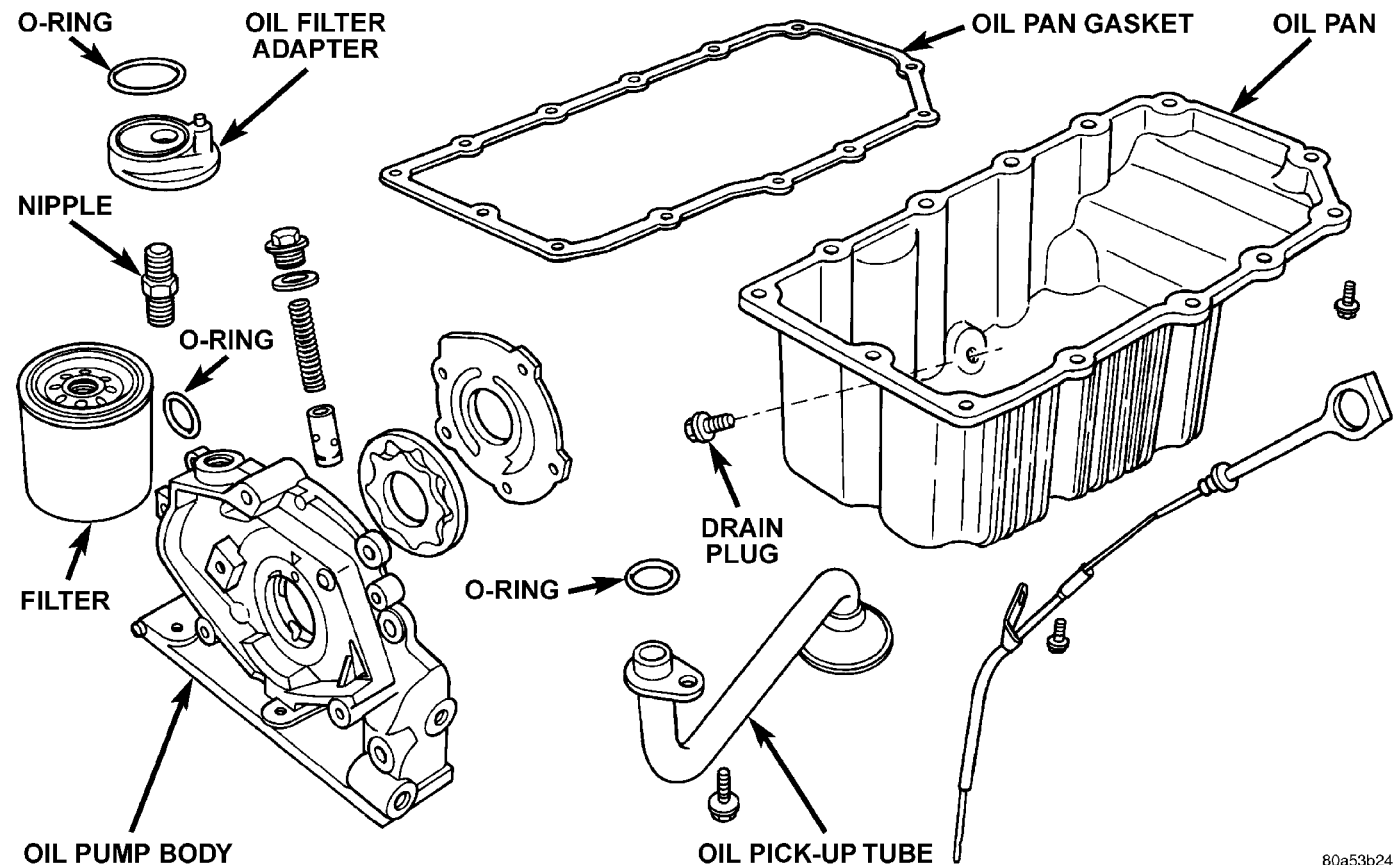

Fig. 74 Oil Pump and Tube
- (5) Remove oil pick-up tube.
- (6) Remove oil pump, (Fig. 74) and front crankshaft seal.